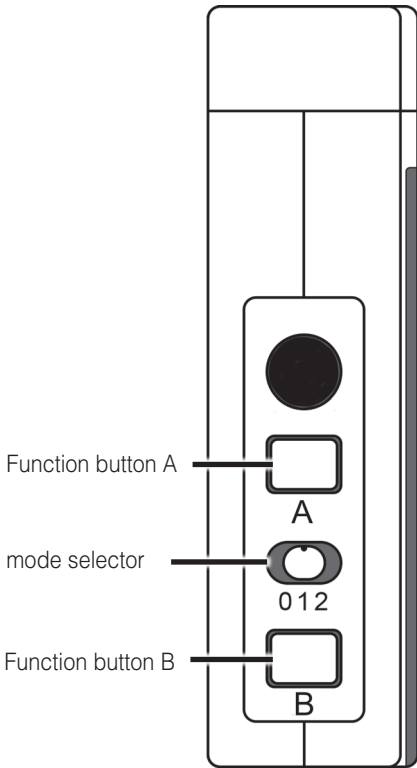

Figure 2: Controls, left side
Using the mode selector slide switch (in fig. 2 "0 1 2") you can select the signal mode. Kindly keep in mind that the event icons are always displayed by coloured LEDs.
- a) Keep the function button »A« (fig. 2) pressed for some time. The event icons start to light up in sequence. Let go of
- a) Keep the function button »A» (fig. 2) pressed for some time. The event icons light up in sequence. Let go of the key as soon as you see the desired icon.